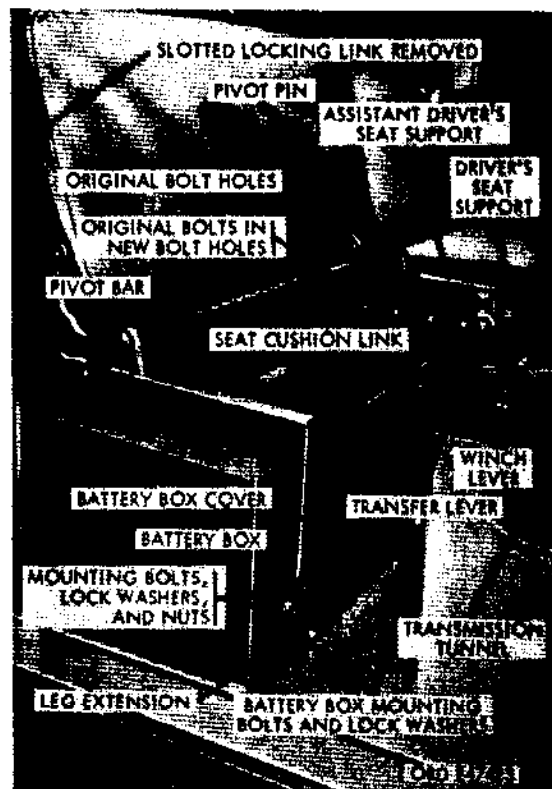

Figure 634. Battery box with cover and assistant driver's seat installed
- (15) Latch the battery box cover (fig. 626) to the battery box (fig. 634).
h. Assistant Driver's Seat (Fig. 634).